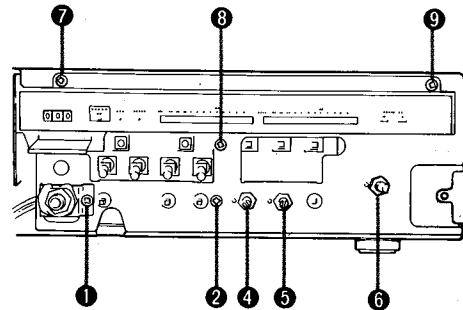

Fig. 5
4. Remove screws ① and ②, and hexagonal nut ④ to ⑥ in Fig. 5.
6. Remove the screws ⑦ to ⑨ in Fig. 5 and then remove the plate assembly.